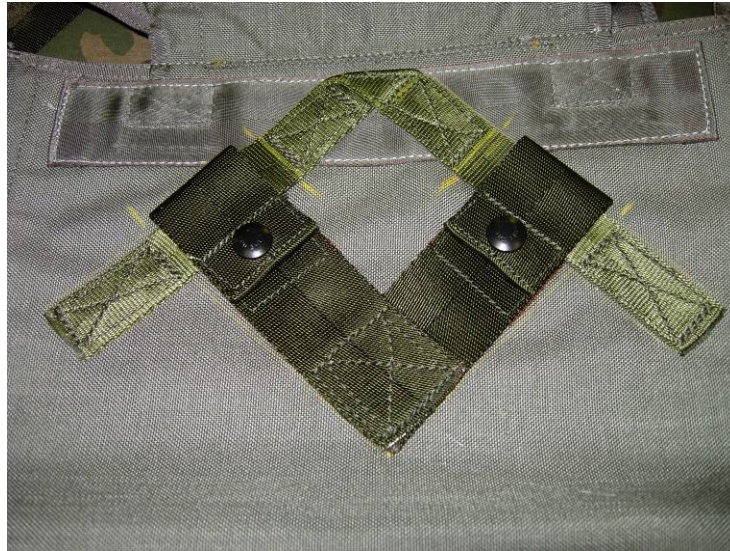

Figure 49. Sew the Diagonal Back Strap Retainer.
25. Sew the diagonal back strap retainers onto the main pack tray using size 3 nylon thread, 5 to 8 stitches per inch with a Box X stitching pattern (Figure 49).